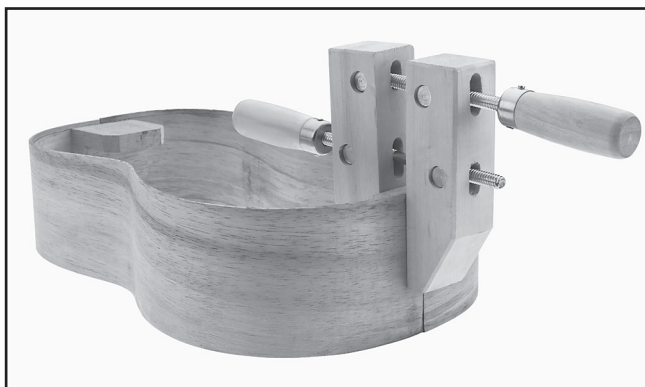

Figure 6. Clamping and gluing the tail block in place.
10. Glue and clamp the tail block to the sides, as shown in **Figure 6**.